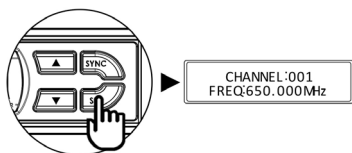

Figure 1
1. Press and release SET button until the CHANNEL | FREQUENCY page appears (Fig 1).